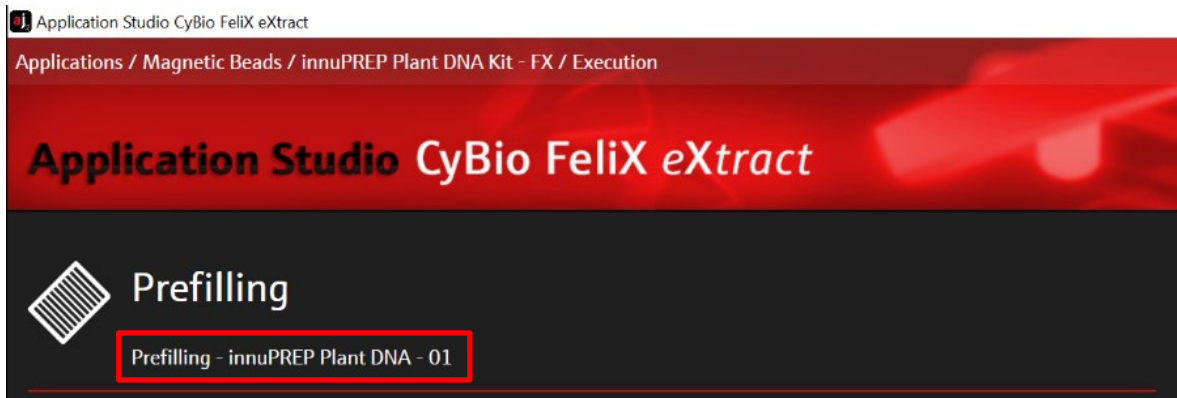

Figure 7: Version number of the prefilling protocol
18. Check the correct version number of the protocol (→ see Figure 7):